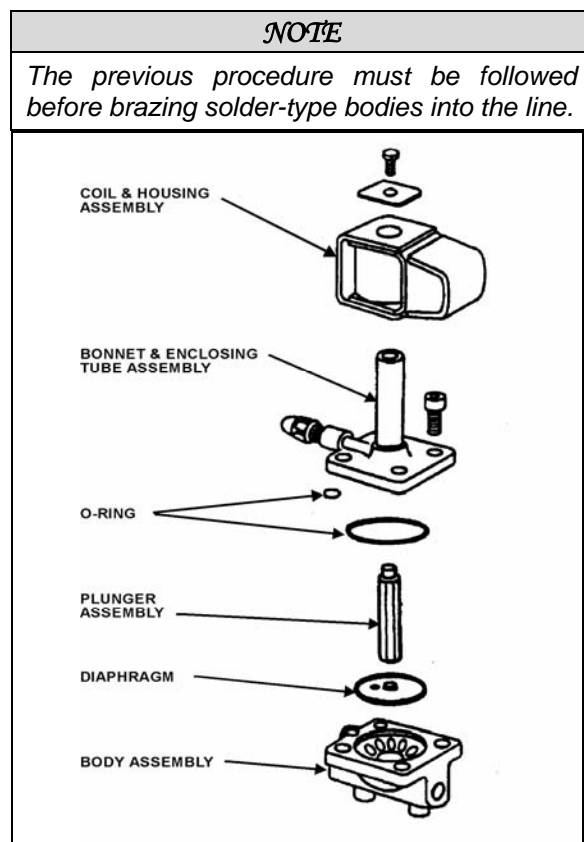

FIGURE 33: REFRIGERANT SOLENOID VALVE 22044
3. Remove the four socket head screws which hold the body and bonnet together (figure 33).